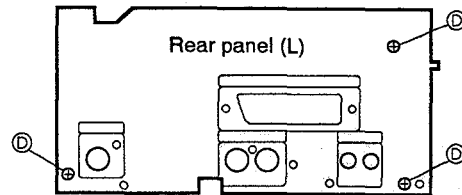

Fig. 8
- (1) Remove the three screws (D) fastening the rear panel (L). (Fig. 8)